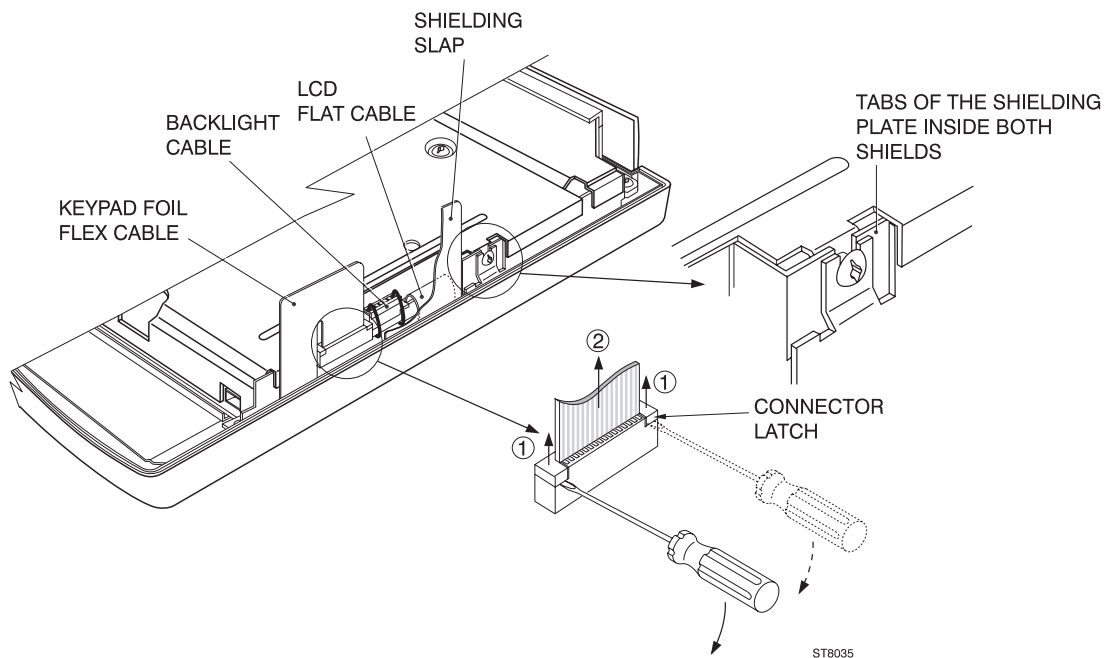

Figure 5-2. Flex Cable Connectors
2. Disconnect the LCD flex cable, and the keypad foil flat cable, see Figure 5-2.
2. Do not forget to install the power connector insulator (item 3) and the LED holder (item 6).
3. Notice the correct position of the shielding box, main PCA (notice the shielding plates on the PCA), and shielding plate, as shown in Figure 5-2. The tabs of the shielding plate must be inside both shields.